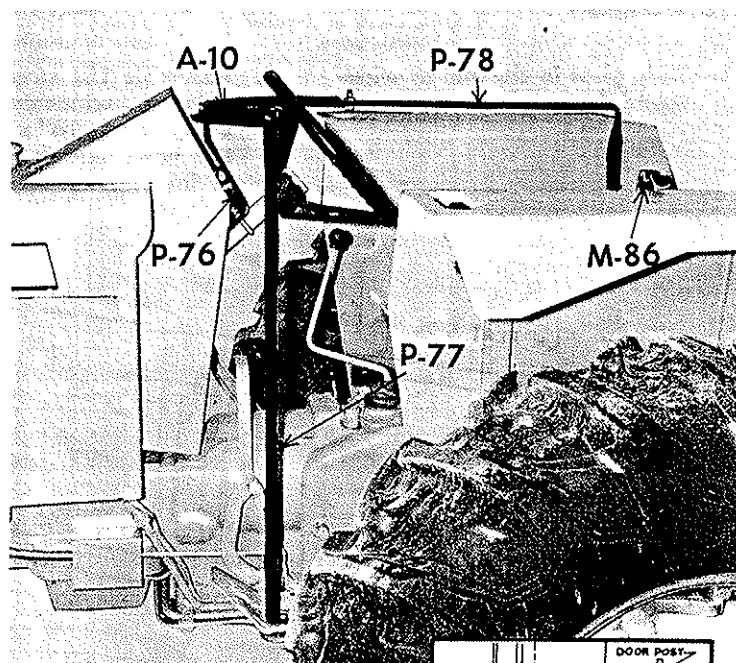

Figure 2
5. Insert P-77 door post into wide hem on right side. Bolt top to A-10 using 1/4" x 1" bolt and nut. Bolt bottom to step using front outside hole in step and 1/2" x 1" bolt and nut. See Figure 2. Tie straps using springs to adjust for a proper fit.